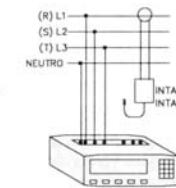

Fig. 3.6.2
2) Eliminate the short-circuit on the C.T. (Fig. 3.6.2).